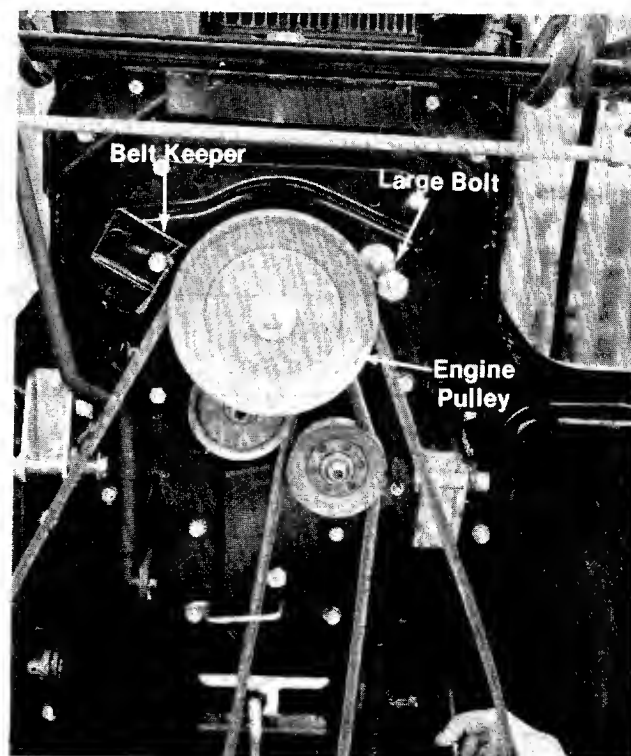

FIGURE 27.
2. Remove the belt keeper and large bolt from the engine pulley. (See figure 27.)
3. Remove the belt keeper and large bolt from the engine pulley. (See figure 27.)